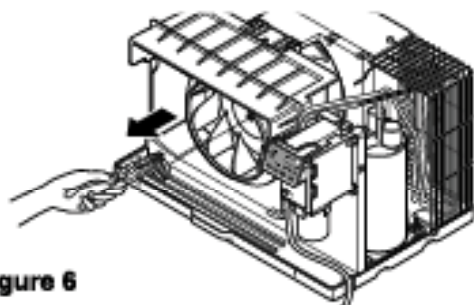

Figure 6
8. Using handheld pliers, remove the clamp which secures the turbo fan. (See Fig. 6)